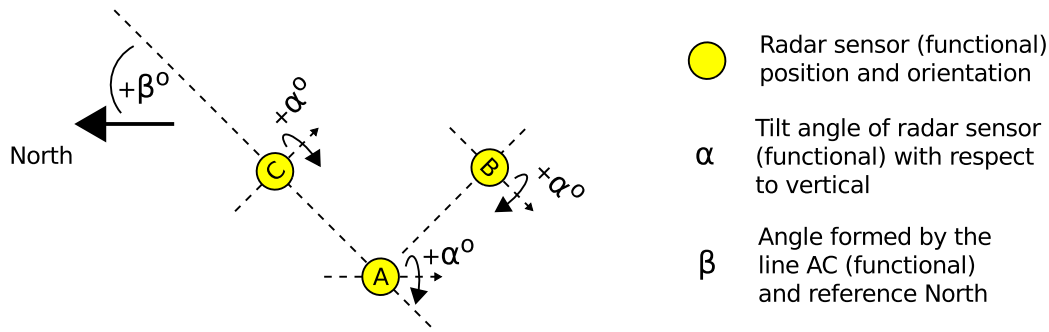

Figure 1.3: Definitions for WaveGuide Direction systems.
- When specifying a tilt angle for radar B and C, the tilting direction will be aligned with the position of radar A and the tilt angle will be positive when tilting away from A. (Right hand rule in Fig. 1.3.)
- When specifying a tilt angle for radar A the tilting direction will be aligned with the center between positions B and C and positive in the direction of the center between B and C. (Right hand rule in Fig. 1.3.)